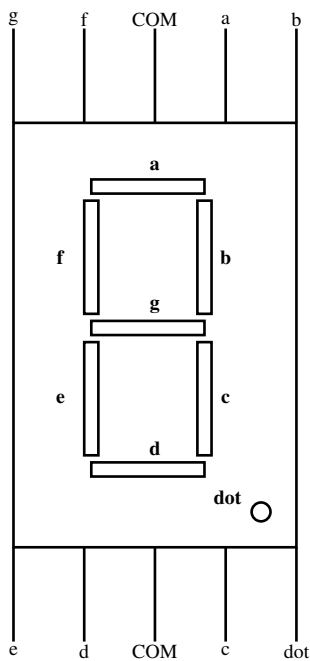

Fig. 2
- Plug the seven segment display in Fig. 2 into the breadboard.